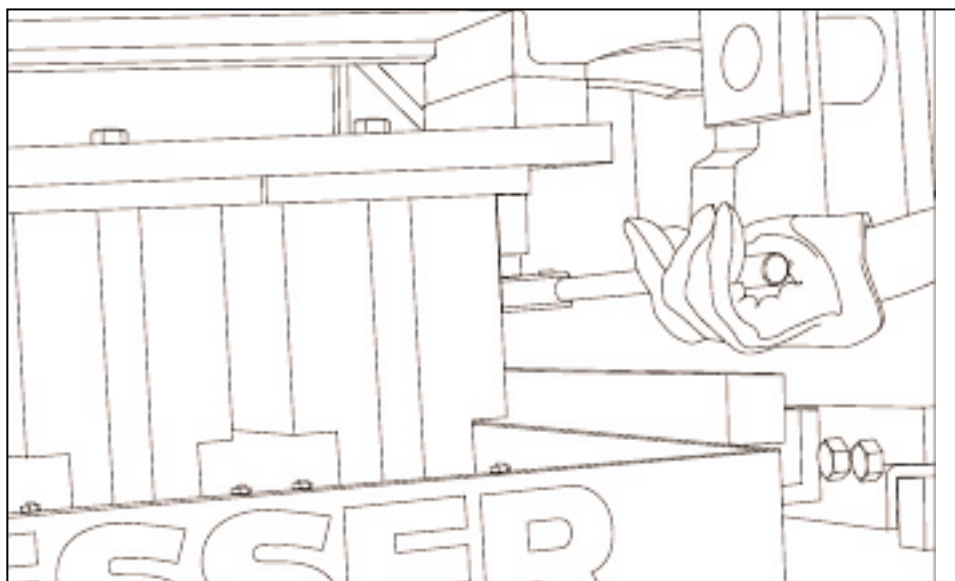

Figure 5.35 TIGHTENING THE HEAD BOLTS.
5.7.18 Tighten the head bolts (figure 5.35).